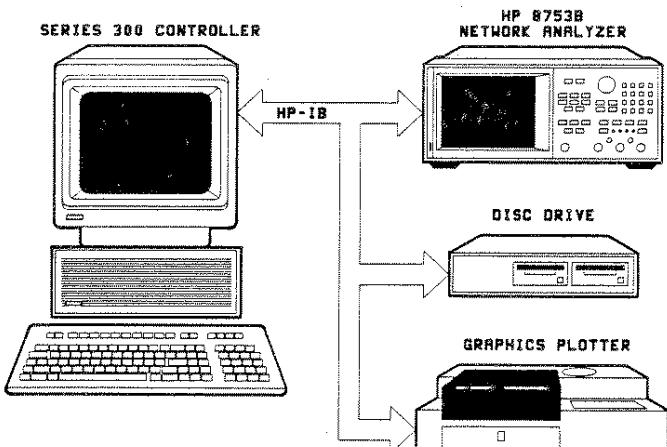

Figure 1. HP-IB connections in a typical setup.
1. **Set up the HP 8753B as shown in Figure 1.** Connect the HP 8753B to the computer with an HP-IB cable. The HP 8753B has only one HP-IB interface, but it occupies two addresses: one for the instrument, one for the display. The display address is the instrument address with the least significant bit complemented. The default addresses are 16 for the instrument, 17 for the display. Devices on the HP-IB cannot occupy the same address as the HP 8753B.